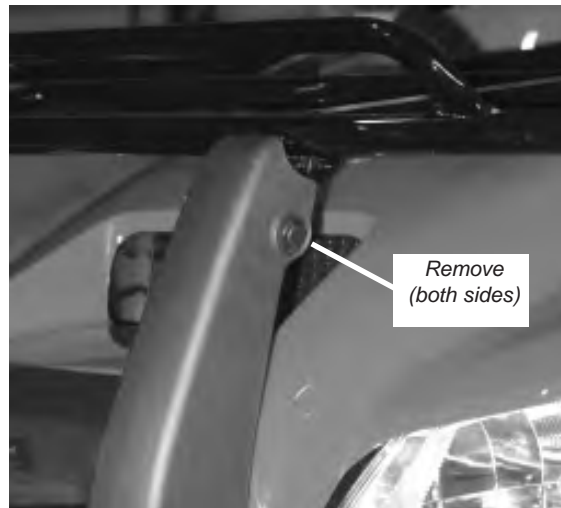

Figure 1 Remove the Two Plastic Rivets
1. Begin by removing the two plastic rivets on each side of the front plastic fascia, figure 1. Use a large screw driver to carefully remove the center rivet. After removing the center rivet, remove the rivet housing. Save the fasteners as they will be used to reinstall the front plastic fascia.